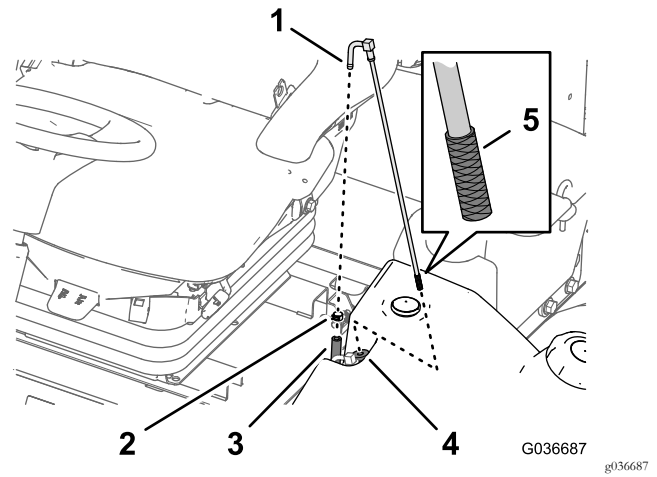

Figure 46
2. Separate the hose from the fitting (Figure 46).
3. Lift the fuel-pickup tube from the fuel tank (Figure 46).
4. Clean any debris from the screen at the end of the fuel-pickup tube (Figure 46).
5. Insert the fuel-pickup tube through the rubber bushing and into the tank (Figure 46).
1. Remove the hose clamp that secures the fuel supply hose to the fitting of the fuel-pickup tube (Figure 46).